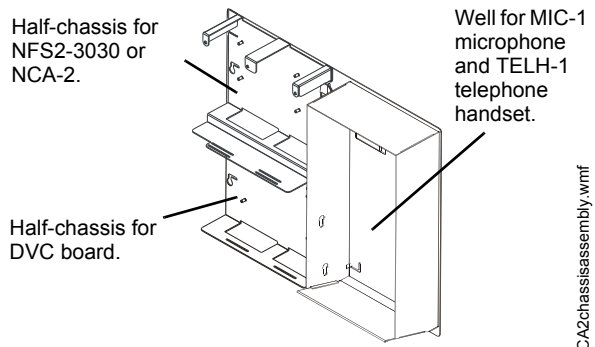

Figure 2.1 CA-2 Chassis Assembly
- CA-2 - This chassis assembly occupies two rows of a CAB-4 series enclosure. The left side accommodates a DVC board mounted on a half-chassis and one NFS2-3030 or NCA-2 mounted on a half-chassis. The right side houses a microphone and handset well. (Refer to Figure 2.1.)